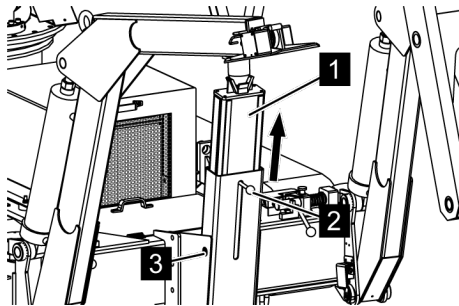

Fig. 76: Lifting the telescopic arm attachment
4. ➔ Pull the telescopic arm attachment (Fig. 76/1) upwards on the handle (Fig. 76/2) until the holes (Fig. 76/3) meet.